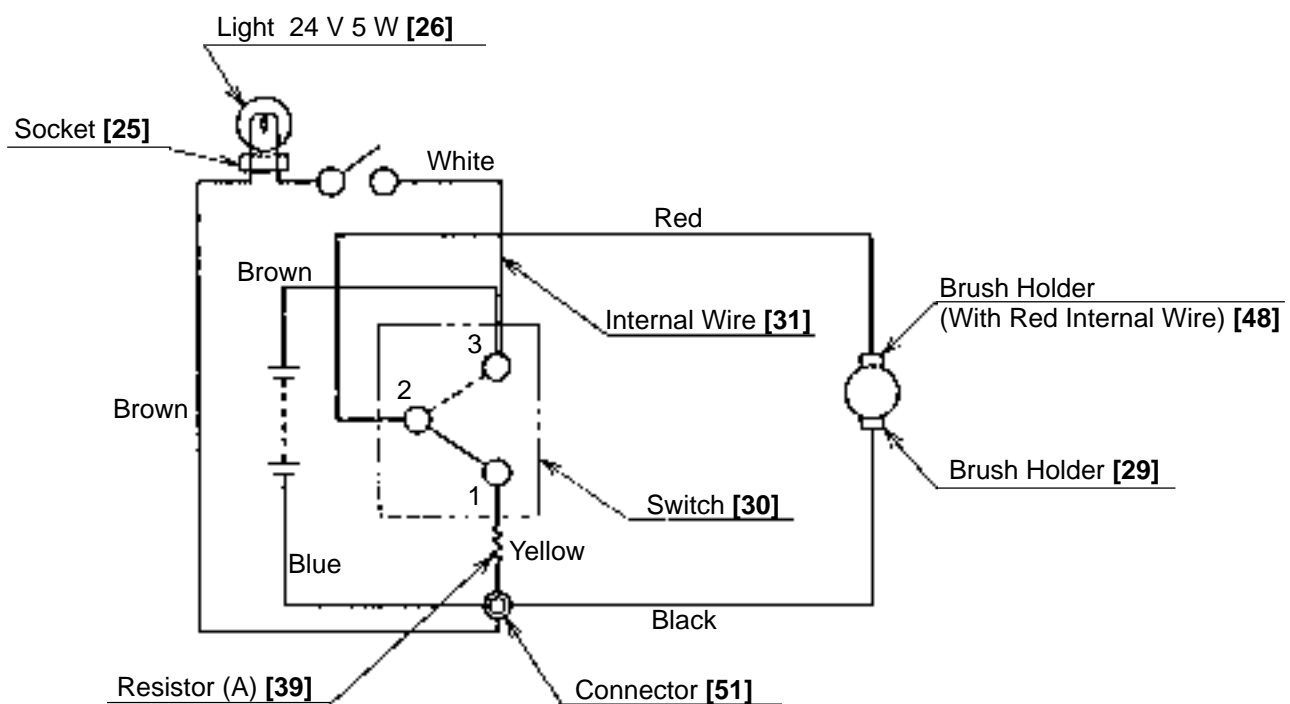

Fig. 5
(7) Wiring diagram (See Fig. 5.)